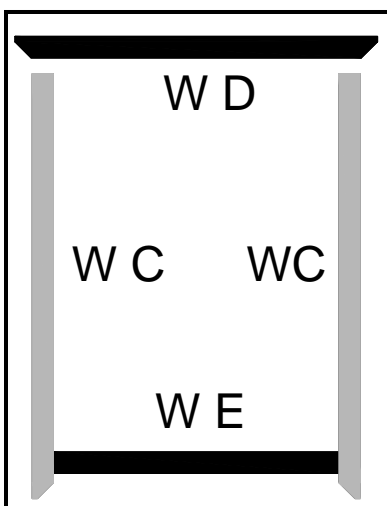

Fig A2
7. Layout parts **WC**, **WD** & **WE** as in fig A2 & drawing on top of the frame from steps 1-6 flush with the inner edge of the frame.